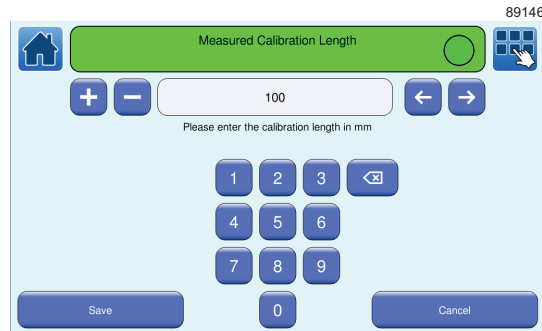

Figure 48. Measured Calibration Length screen
- 7 Touch the **Enter Measured Calibration Length** button to display the **Measured Calibration Length** screen (see Figure 48 on page 52).